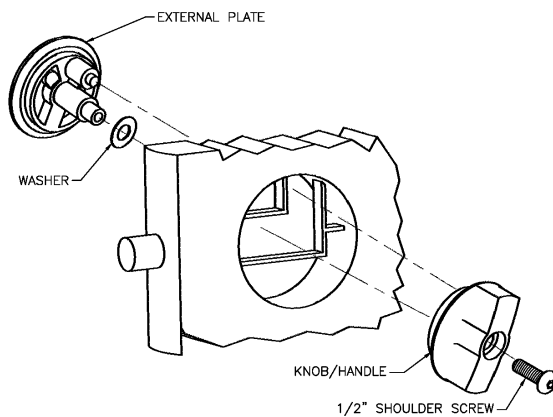

Figure 9B
- f. Mount external plate and knob. Remove clear plastic retainer holding spring washer in place on the post of the external plate. Insert the external plate into door as shown in Figure 9B, with the shorter post inserted into the upper pocket of the internal latch mechanism. Mount the knob/handle on the inside of the door and engage it with both the center post and the shorter, off-center post of the external plate. Insert 1/2" shoulder screw with blue tip through the knob/handle and tighten until snug. Check for proper operation of knob and latch pin before final tightening.
- g. Locate strike/keeper on the latch-side pilaster so the latch pin engages with it when the door is closed. Drill (1/4" bit) mounting holes and secure strike/keeper to pilaster using thru bolt (1), with black rubber bumper facing out for outswing doors and in for inswing doors.